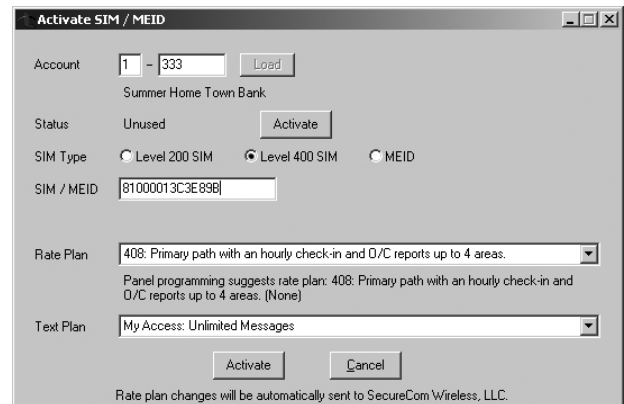

Figure 5: Activate SIM/MEID
- B. Select the rate plan for the XTLC. See Figure 5.